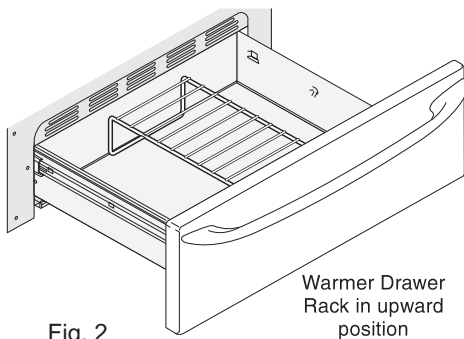

Fig. 2
- In the **upward position** (Fig. 2) to allow low profile food items to be placed both under and on top of the rack (for example, rolls or biscuits on top of the rack and a casserole dish underneath).